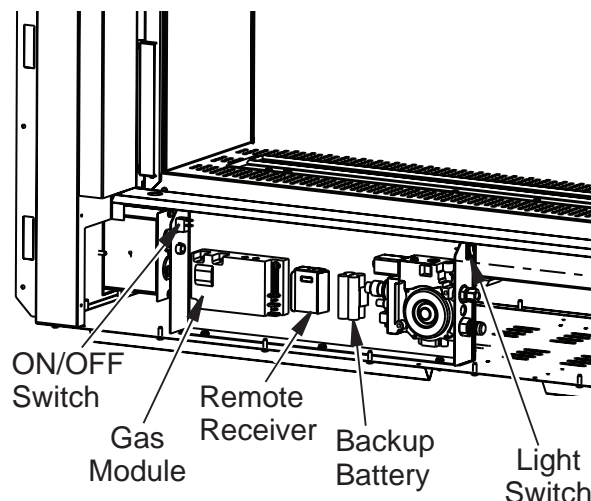

Figure 24 - Control Module (Face Bottom not shown for Clarity)
5. Light switch is located on the right hand side as shown in Figure 24.
6. ON/OFF switch is located on the left hand side as shown in Figure 24.
4. The control module is located on the left as shown in Figure 24.